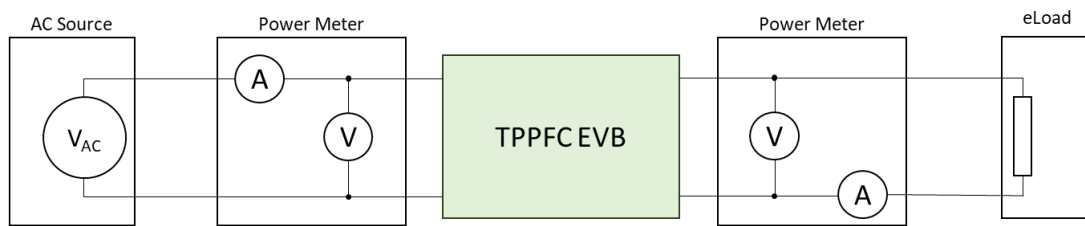

Figure 5 – Test set up for efficiency measurements
- For efficiency measurements where output power was equal or higher than 10% load, one power meter was attached to the input to measure input power, power factor and THD and a second power meter was connected to the output to measure output power. Efficiency was calculated using the power measurements. Figure 5 illustrates how the power meters were arranged. The voltmeter in the input was connected directly to test points, TP24 and TP27. The voltmeter in the output was connected directly to test points, TP22 and TP23.